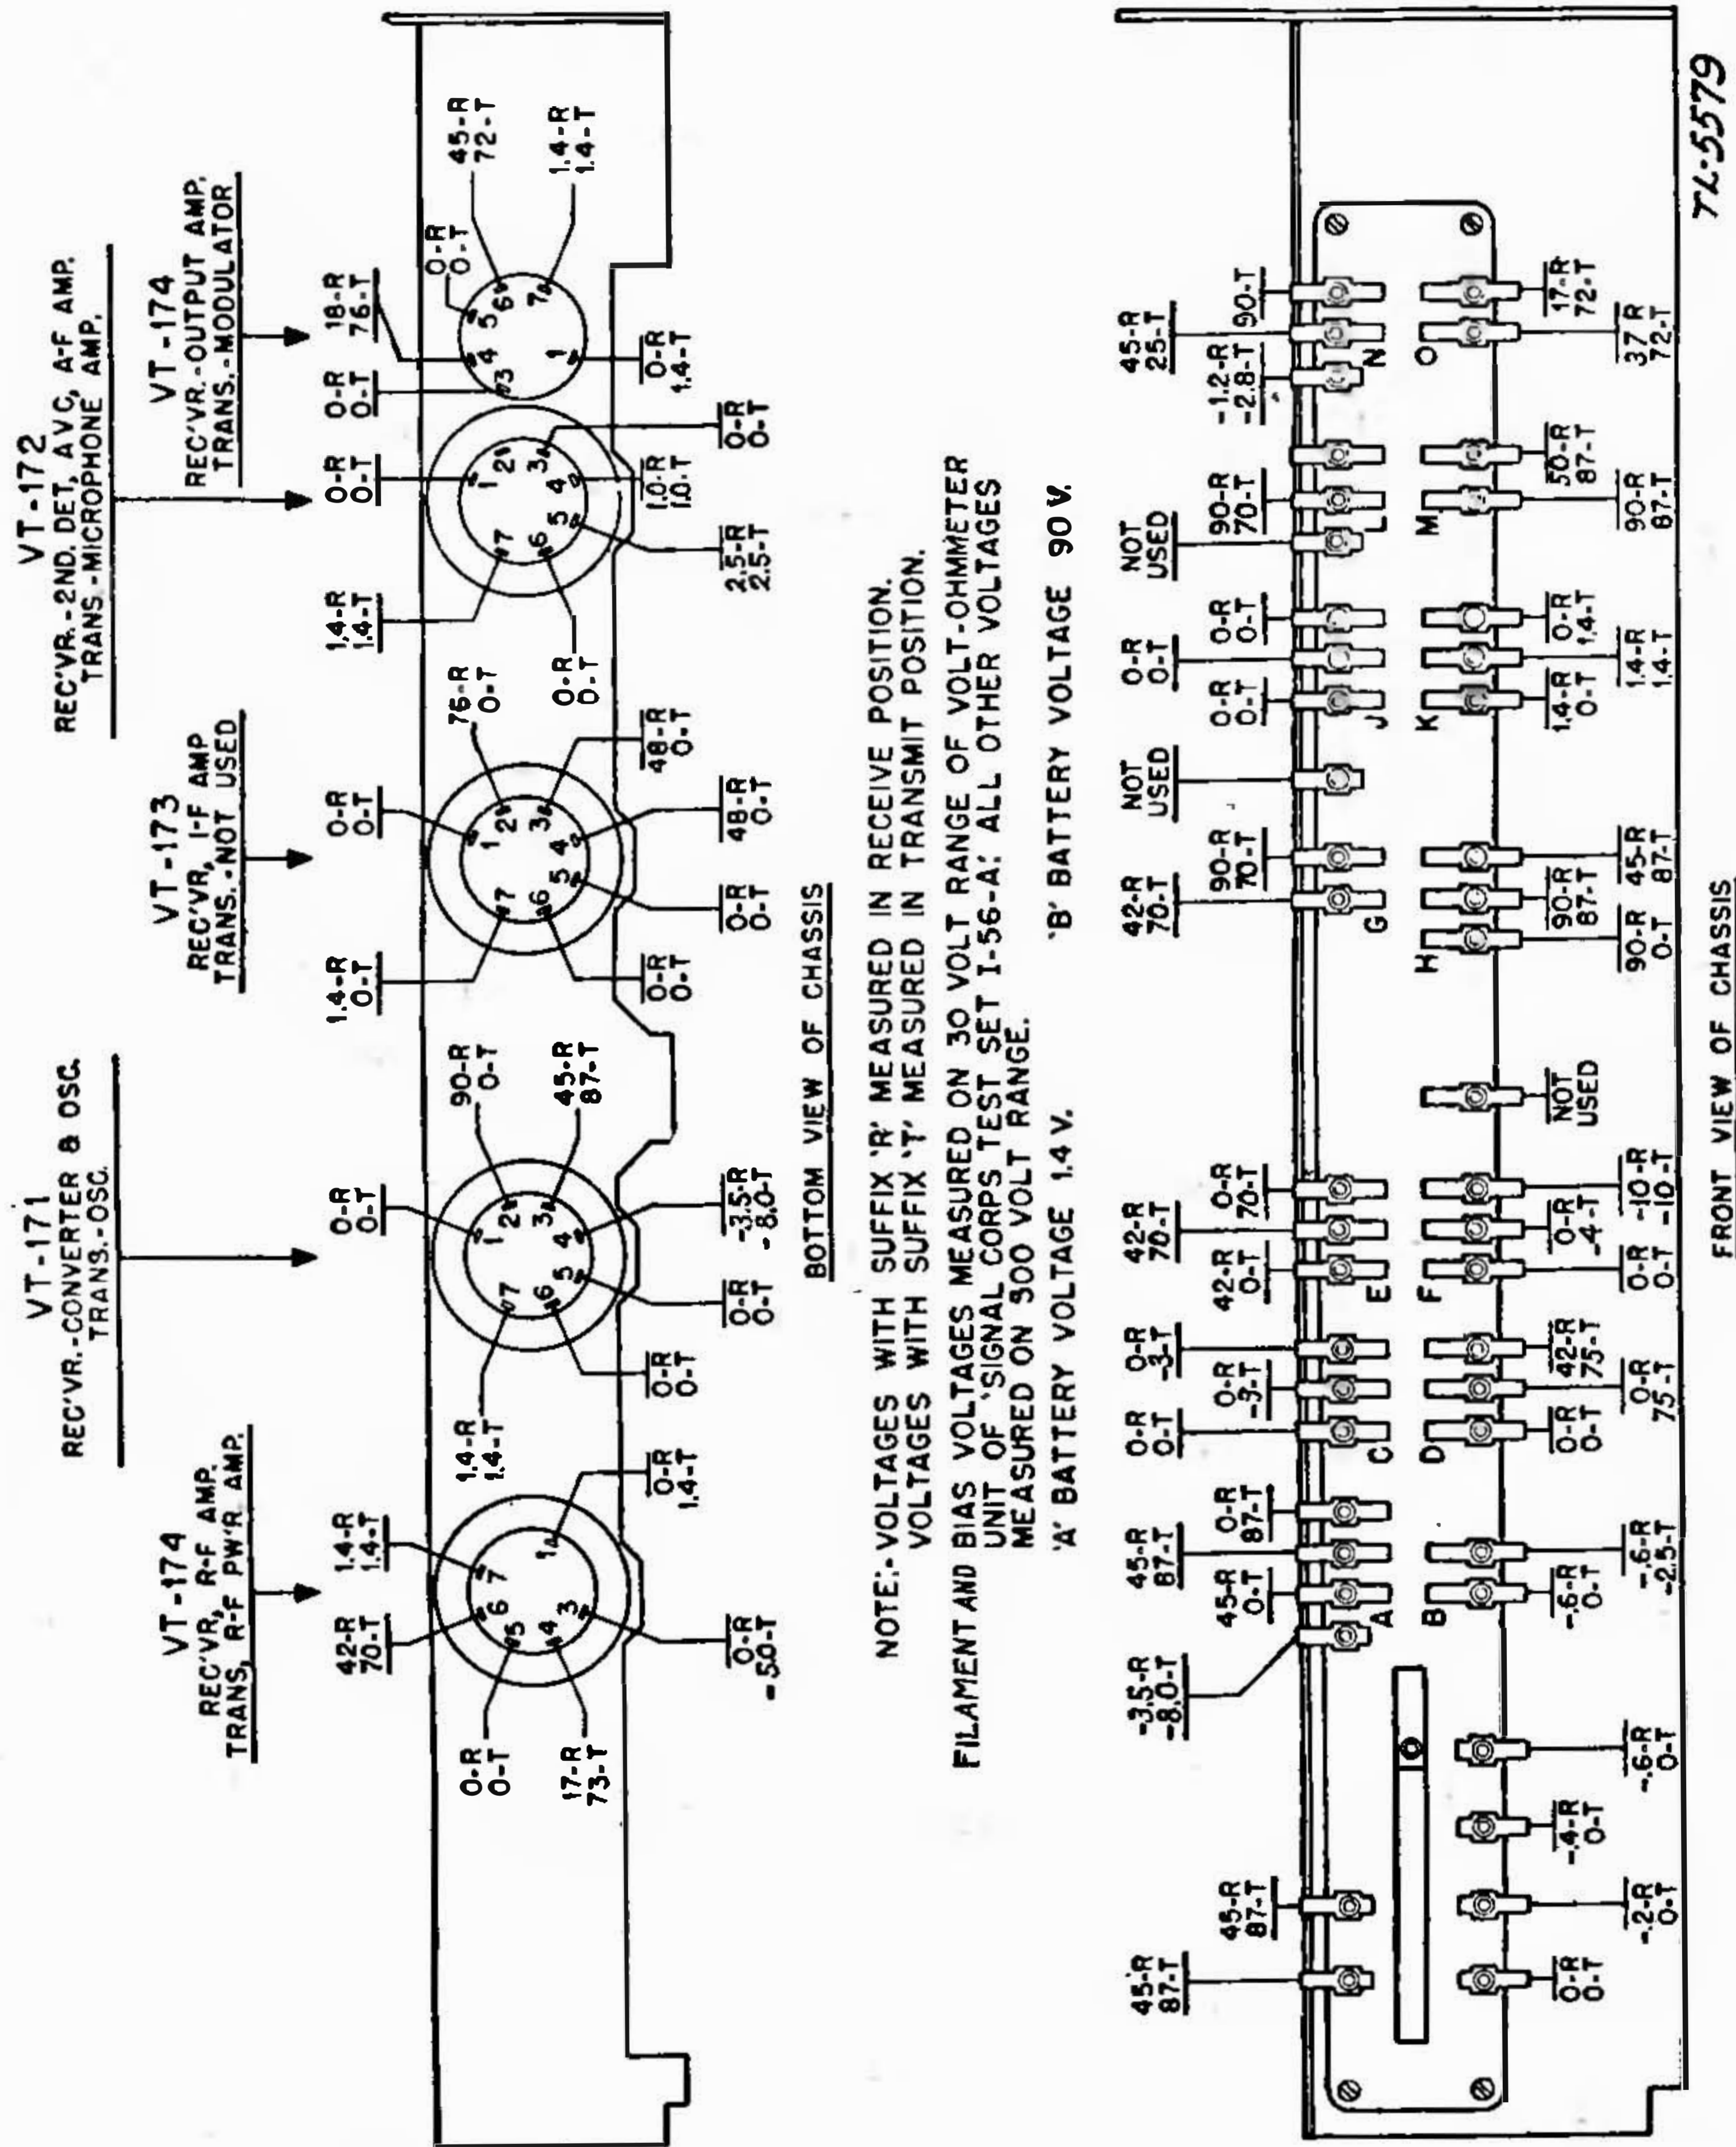

FIGURE 25.—Radio receiver and transmitter BC-611-(\*)—tube socket and terminal lug voltage measurements.
*b. Oscillator does not function (no reception and transmission).*—To check for operation of the oscillator, place a d-c voltmeter across  $R_4$ ; a reading should be obtained if it is functioning. (See fig. 25 and chart III.) Besides the common reasons for oscillator inoperation such as part failure, a weak crystal, low battery voltages, etc., inoperation can also be caused by defective switching. If in pressing the press-to-talk switch, the moving blade of switch section *A* does not make contact with the switch lug connected to the transmitter crystal  $M_2$  at the same time or before the moving blade of switch section *M* short-circuits resistor  $R_{17}$ , the energy pulse necessary to start crystal activ-